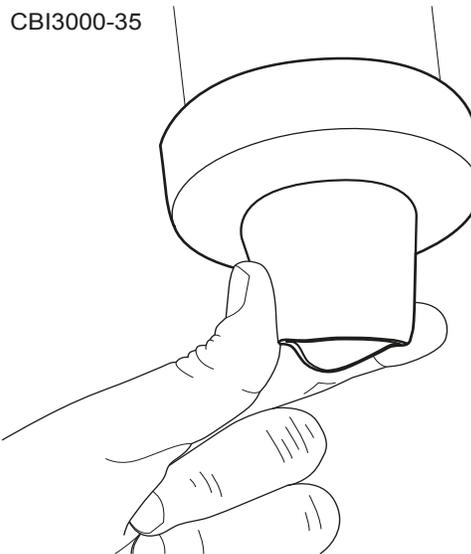

Figure 6.46 - Squeeze Air Filter Unloader Valve
2. Clean Valve - Squeeze the two sides of the valve together to release any of the larger contaminants that have been separated out (Figure 6.46).